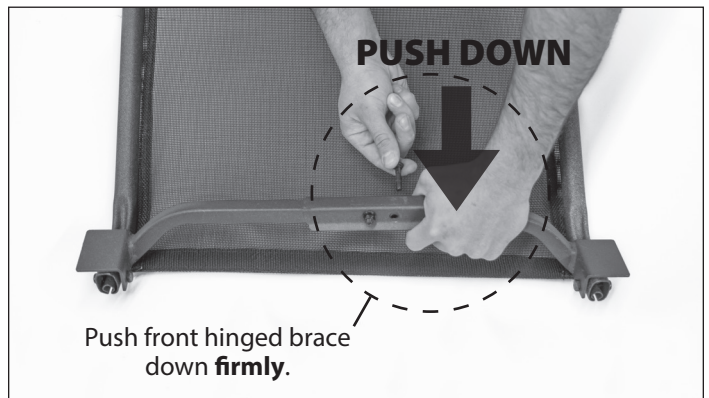

FIGURE 13 - Install previously removed bolt and locknut
h. Push down on the front hinged brace and install the previously removed bolt and locknut. **SEE FIGURE 13.**